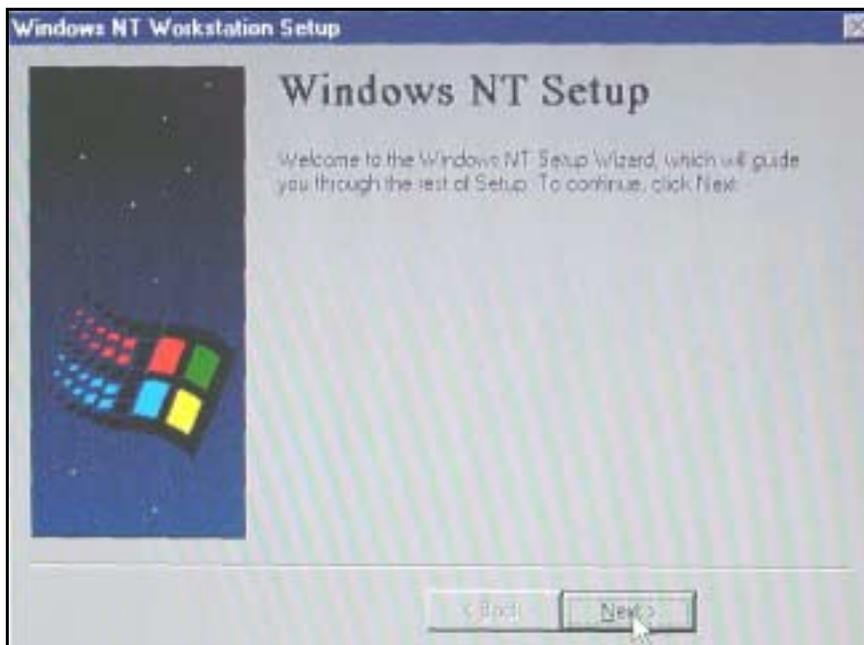

Figure 4-10 Setup screen
18. At "Windows NT Workstation Setup" screen (see Figure 4-10) click *Next*.